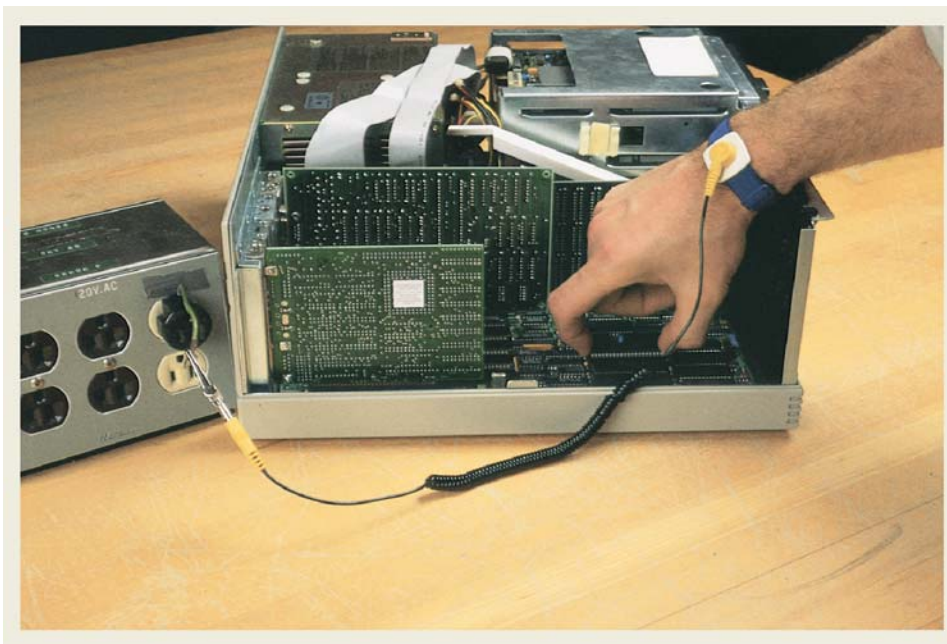

Figure 21 Wearing a commercially available wrist strap dissipates static charges from the technician's body to a ground connection while handling CMOS ICs.
4. Wear a wrist strap to connect your wrist to ground with a length of wire and a 1-MΩ series resistor (see Figure 21).